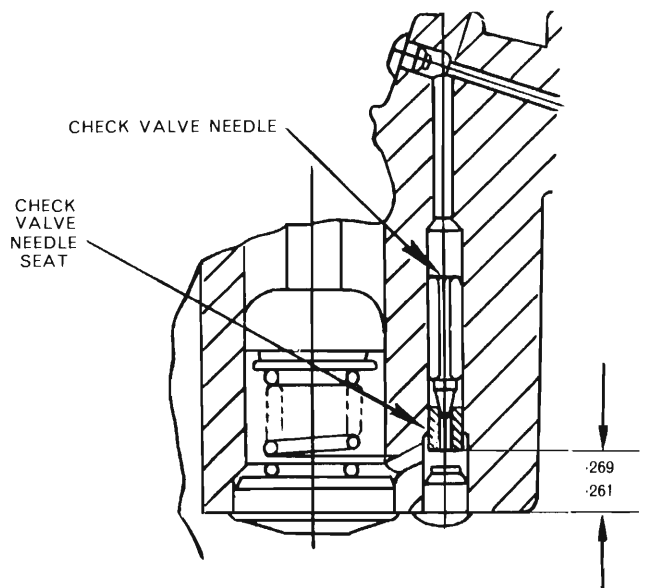

Fig. 2 - Accelerator check valve needle components
(1) Drill a 9/64" diameter hole in the aluminium sealing plug (refer Fig. 2) which seals the passage.
(2) Screw in the plug extracting tool E14C25A securely into the plug and extract the plug with the impacting tool.
(3) Carefully drill the valve seating to enlarge the aperture to accept the extracting tool E14C25A
(5) Carefully draw the check valve seat from the bore by impacting, using the sliding weight.
(6) Shake out the check valve needle from the bore.
(7) Re-assemble after careful cleaning and install the new needle valve with the point outwards (refer Fig. 2).
(8) Install the check valve seat toward the needle and drive the seat in the required depth using Tool E14C30A, until tool bottoms on body (i.e. .261"-.269").
(9) Install a new plug to seal the drilling.
**(C) Step-up Cylinder Components**